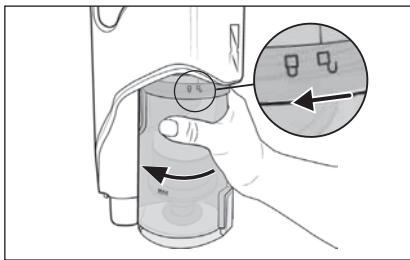

Fig. 22
- 2) To remove the dirt container 7 from the appliance, turn it towards the symbol □ (open) until it can be detached from the appliance (see Fig. 22).